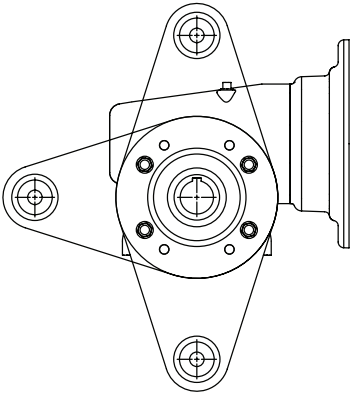

Figure 2 - Stainless Steel Torque-Arm Possible Mounting Positions
3. Acceptable torque arm mounting positions are shown in Figure 2.